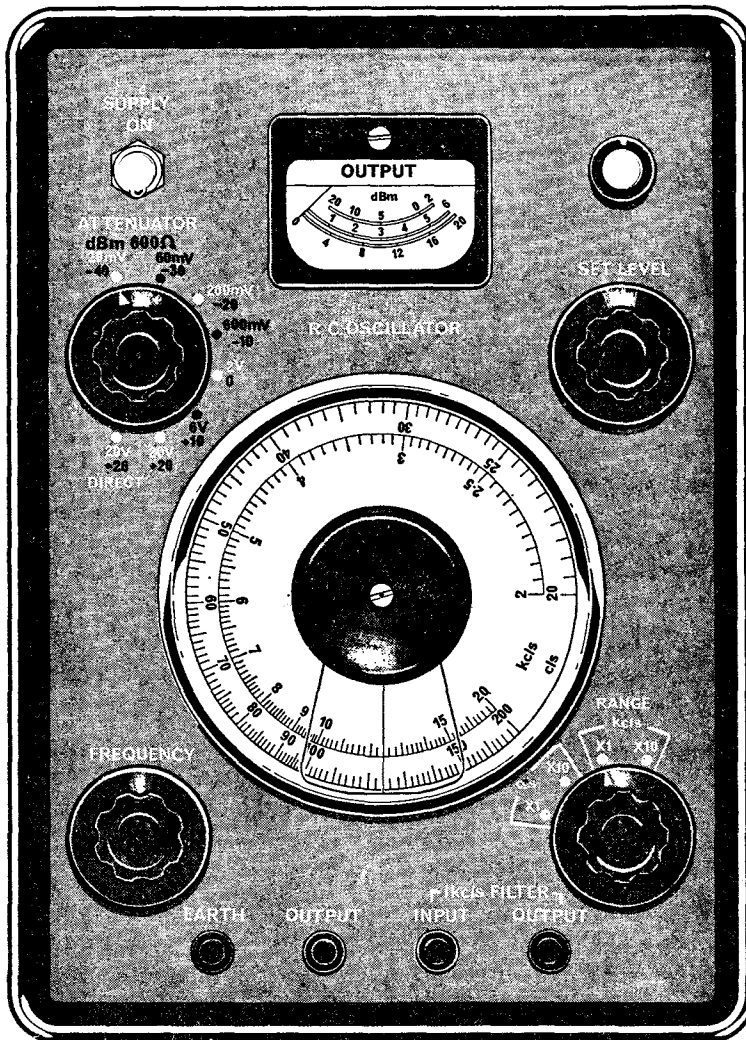

Fig. 2. Signal generator type 16728
9. **Signal generator type 16728.** This instrument is a good general purpose audio signal generator, using a stabilized Wien-bridge oscillator as the source. The frequency range is in four decade bands from 20Hz to 200kHz. Frequency accuracy is $\pm 1\%$ from 20Hz to 20kHz (the true audio band) and $\pm 1\frac{1}{2}\%$ from 20kHz to 200kHz. After warm-up the stability is better than 2 parts in 10^8 . Distortion of the output waveform is less than 1% at any frequency and is less than 0.5% over the band 20Hz to 50kHz. In addition a built-in filter can be brought into the output circuit by linking terminals on the front panel to provide a signal at 1kHz with less than 0.1% distortion. This signal is very useful as an external modulating signal for radio frequency signal generators when carrying out quality tests on receivers. The instrument output impedance is 600 ohms and the calibration of the level controls shown in figure 2.